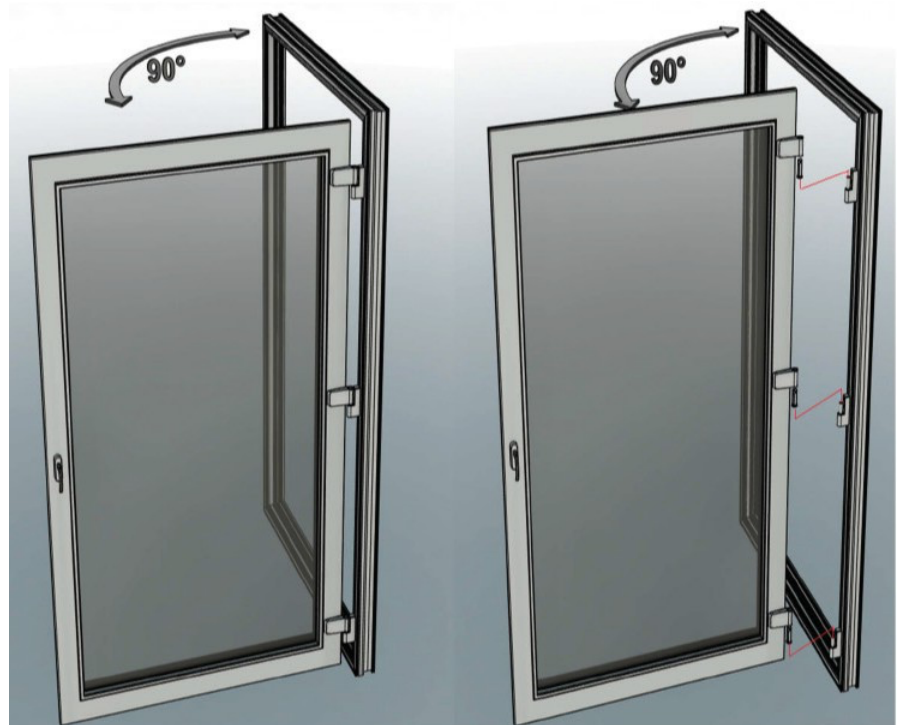

Figure 20
2. Lift the sash out of the frame portion of the hinges (Figure 20).
1. Anchor straps are first installed 150mm (6") from each corner. The anchor straps are installed by inserting them into the groove parallel to the frame and turning 90°. They are not applied at the sill with the exception of tilt & slide and parallel slide doors (Figure 20).